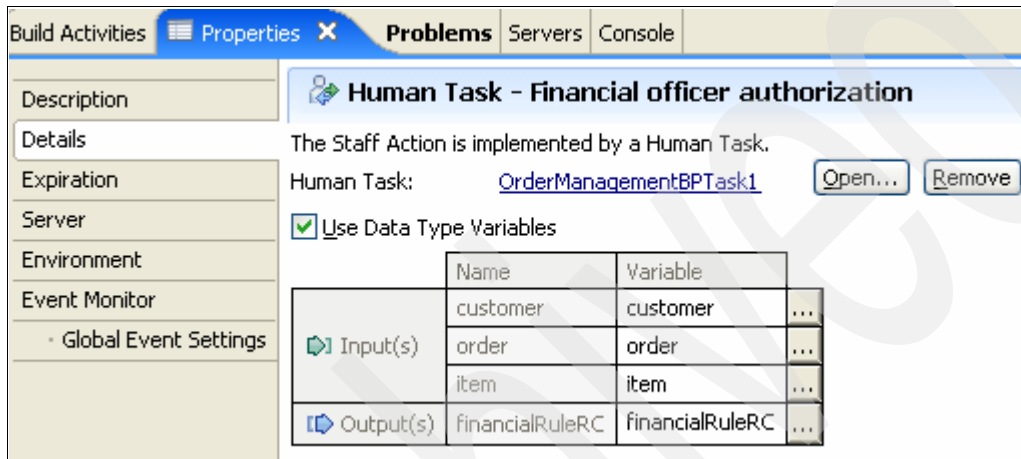

Figure 3-129 Set the financial task interface inputs and outputs
6. Go to the Details tab of the Properties view and set the following inputs and outputs (as shown in Figure 3-129):